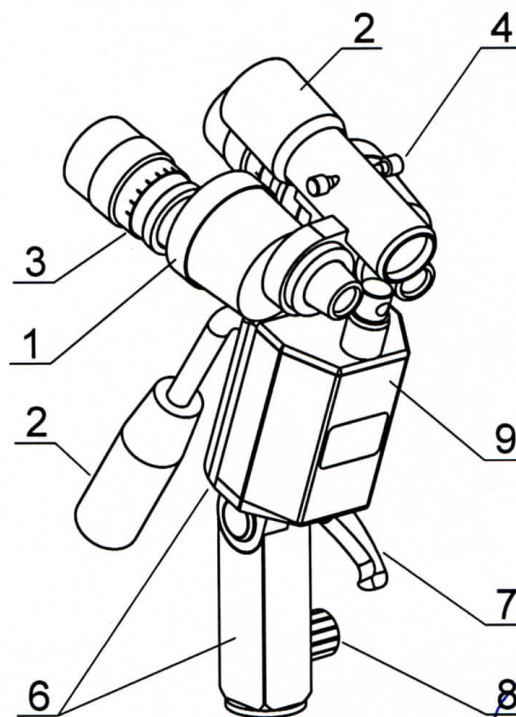

Figure 2 – Colposcope head with the video system.
The colposcope head (fig. 2) consists of the optical head 1, video system 9 (if the colposcope is supplied with the video system), illuminator 2 and arms 6.
The optical head 1 (fig. 2) consists of two microscopes, which optical axes are situated angularly related to each other and overlap 250 mm from the lenses. The construction of the optical head allows adjustment of the interpupillary distance within the range of 56 to 74 mm.
The diopter shift within the range from +5 to -5 diopter according to the user's vision properties is made by rotation of the oculars 3 (fig. 2).
Illuminator optical system 2 (fig. 2) forms a bright and homogenously lit light spot with clear borders in the observed plain. Practically unlimited service life of the LED is possible due to high power supply stabilization from the network AC/DC switch-mode power supply. Insertion of the cyan light filter into the lighting channel of the optical system is performed by the knob 4
Tilting of the optical head 1 (fig. 2) is performed along the connecting axis of the arms 6. The braking effort in the connecting axis of the arms is regulated by the rotation of the handle 7 (the flag of the handle 7 has the idle rotation function for its placing into the convenient position).
- 4) By rotating the oculars 3 (fig. 2) around their axis adjust them according to the eye diopter rate of the user according to the diopter scale.
- 10) If necessary insert (remove) the light filter with the help of handle 4 (fig. 2).